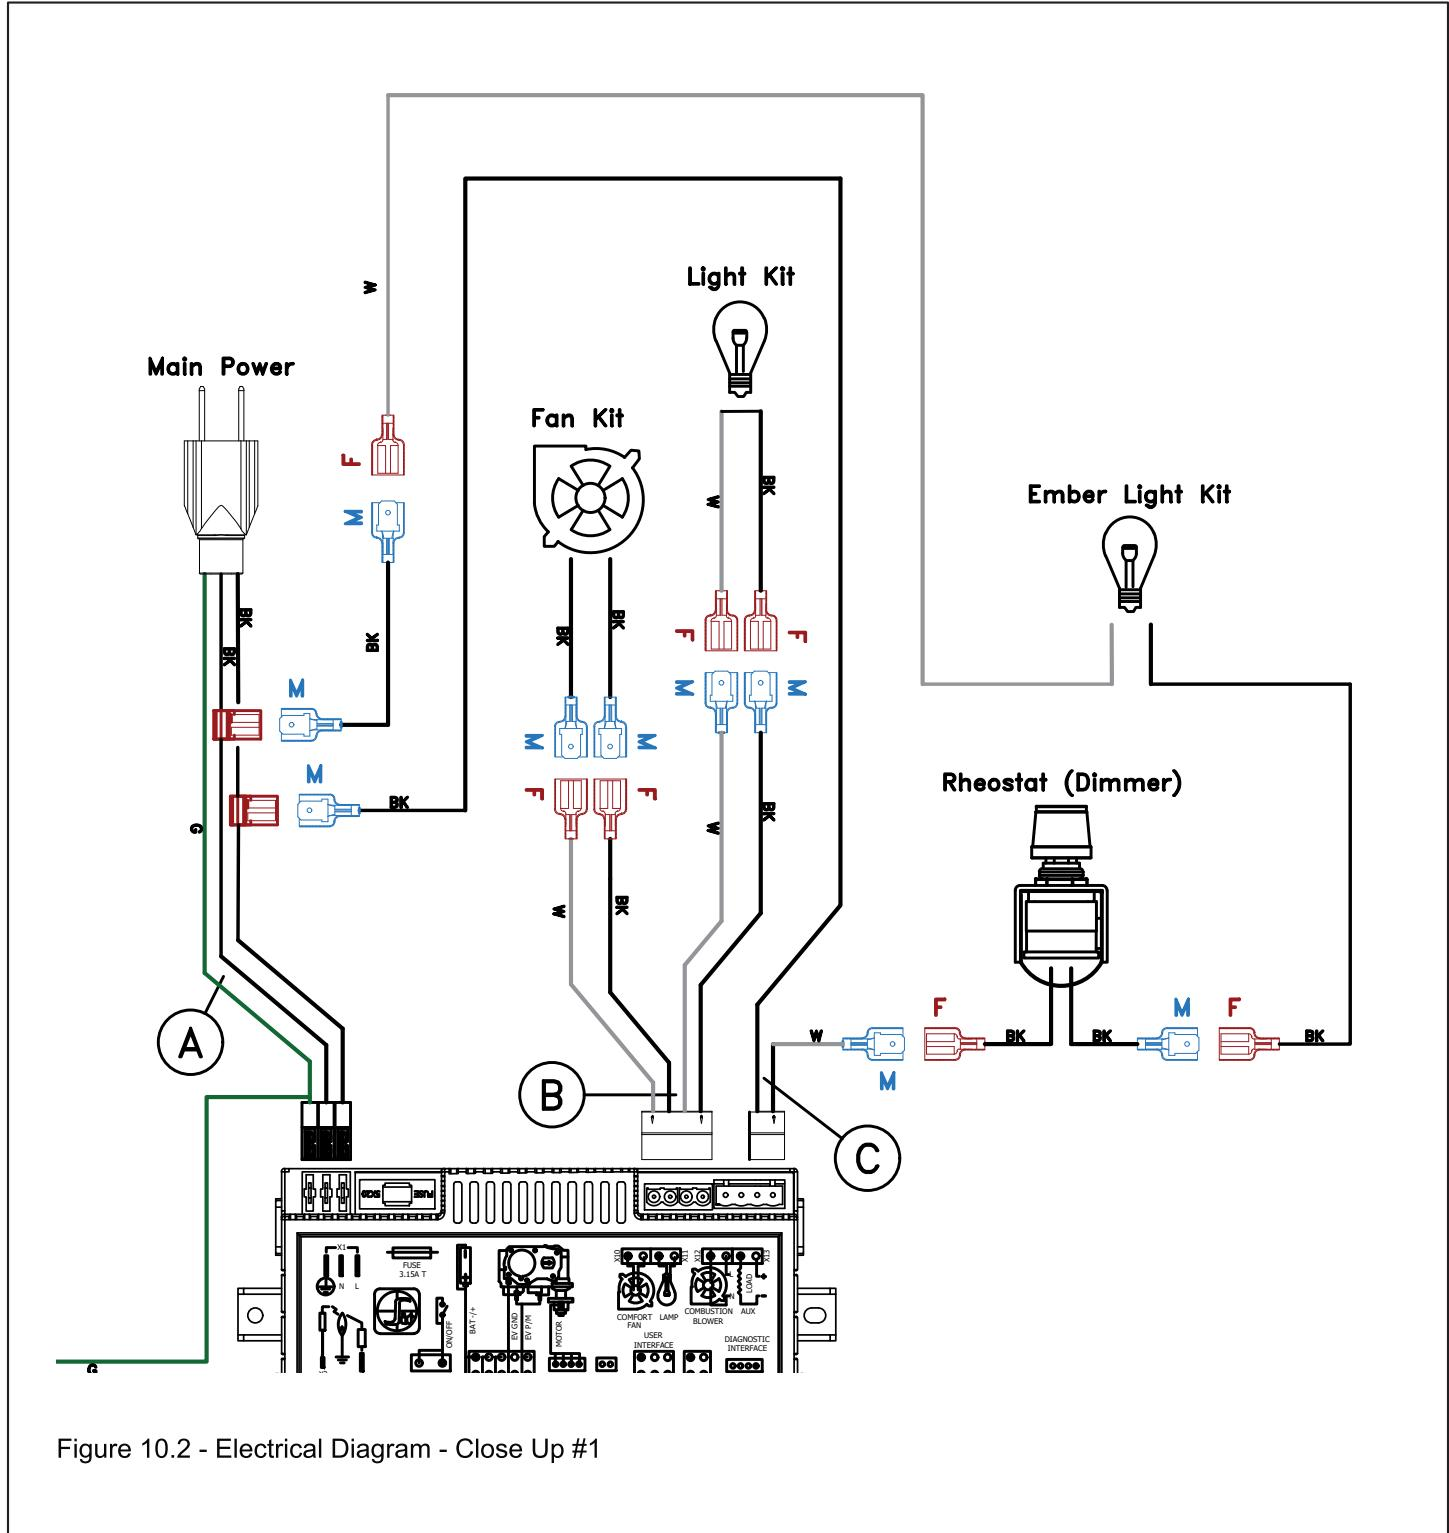

Figure 10.2 - Electrical Diagram - Close Up #1
- Figure 10.2 shows a close up of the wiring diagram. This figure shows the main power cord, fan kit, top light kit, and ember bed light kit.